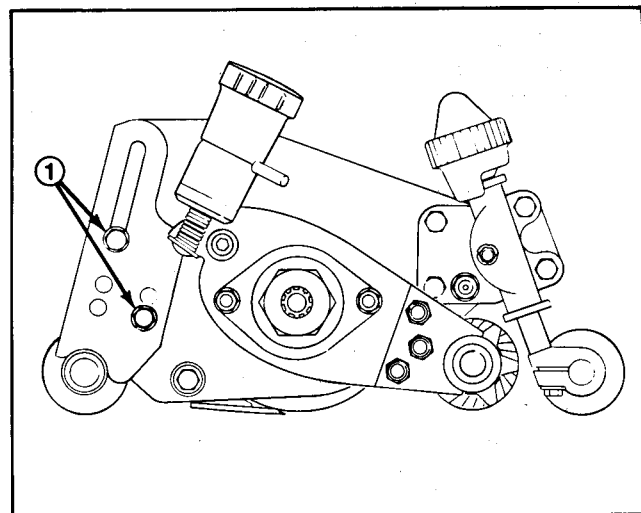

Figure 14
4. After putting bracket into correct height-of-cut hole position make sure right hand rear roller bracket capscrews are tightened securely (Fig. 14).